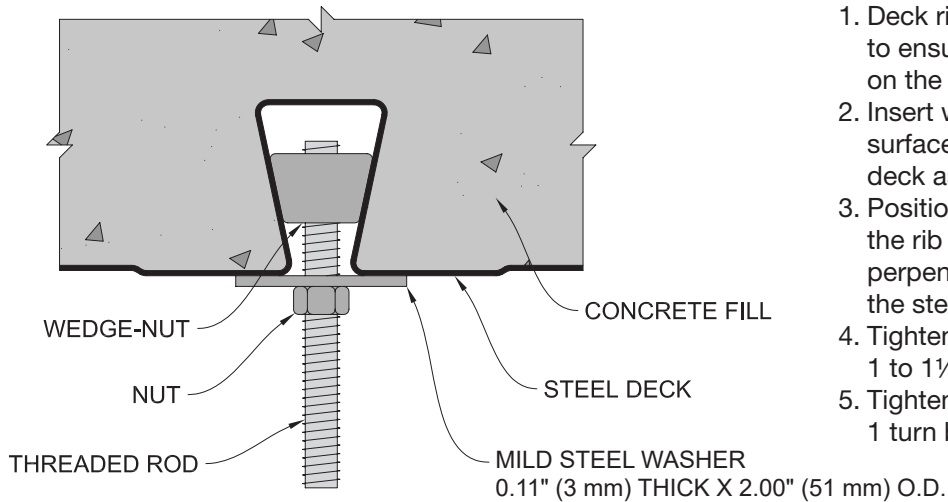

Figure 1
2. Insert wedge-nut and rotate to seat the surface against the webs of the steel deck as shown in Figure 1.
3. Position wedge-nut in the center of the rib with the threaded rod or bolt perpendicular to the bottom surface of the steel deck as show in Figure 1.